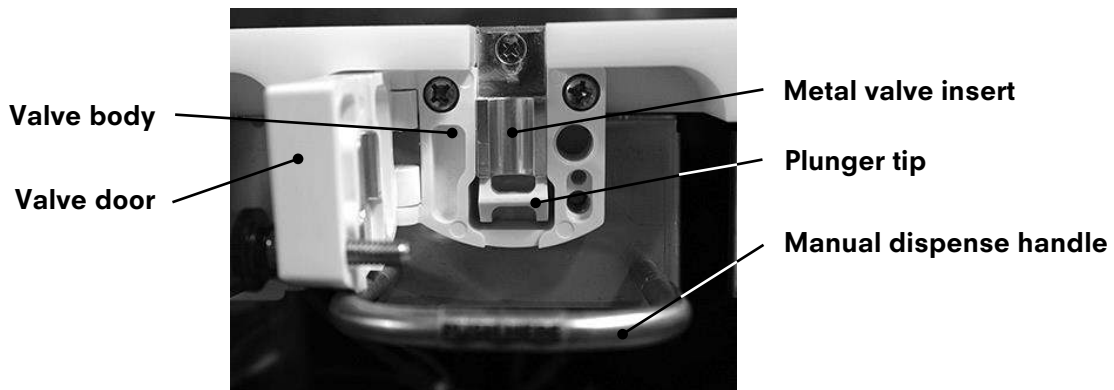

Figure 1
8. Remove the center screw that holds the metal valve insert in place (see Figure 1) and place it in the container.